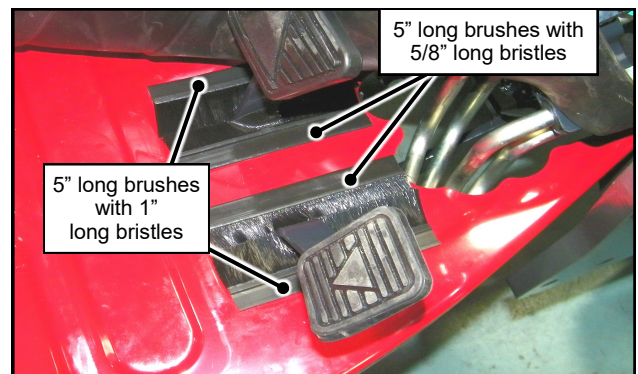

Fig. 2.3 (Right Floorboard Brushes)
- 2.3 Per fig. 2.3, adhere two 5" long brushes (5/8" long bristles) beside the Forward and Reverse pedals, between the two pedals, oriented as shown.